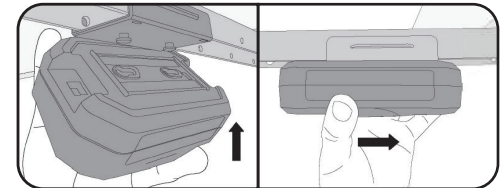

fig 4.2
4. Align the pins with the holes on the back for the Power Adapter. Press the Power Adapter onto the pins and slide to lock it into place. (fig 4.2)